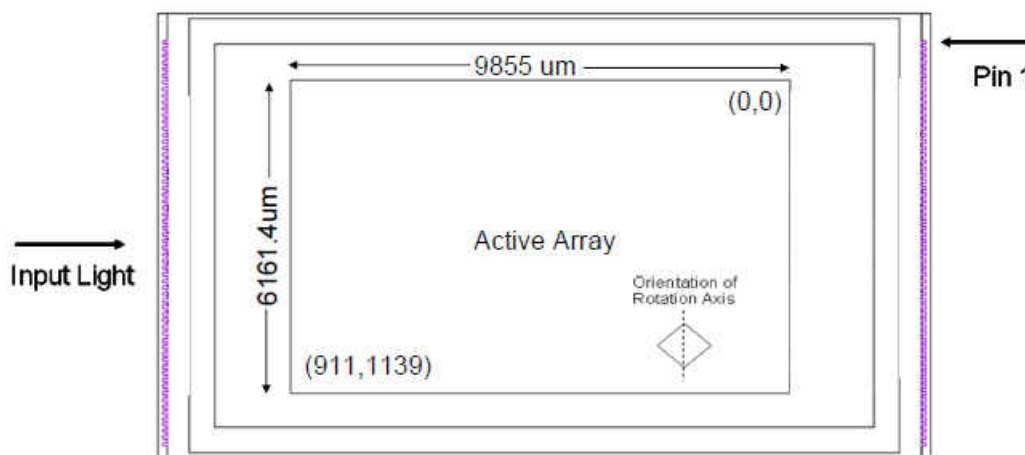

图 7-5. DLP4500 Micromirror Active Area
- (3) See Micromirror Active Area in Figure 7-5.